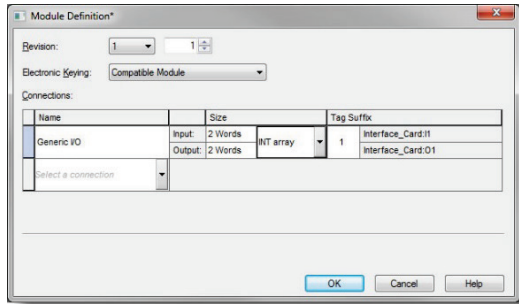

Figure 49: AOP Generic I/O Module Definition
- 3) Configure the Generic I/O connection. Refer to Figure 49.